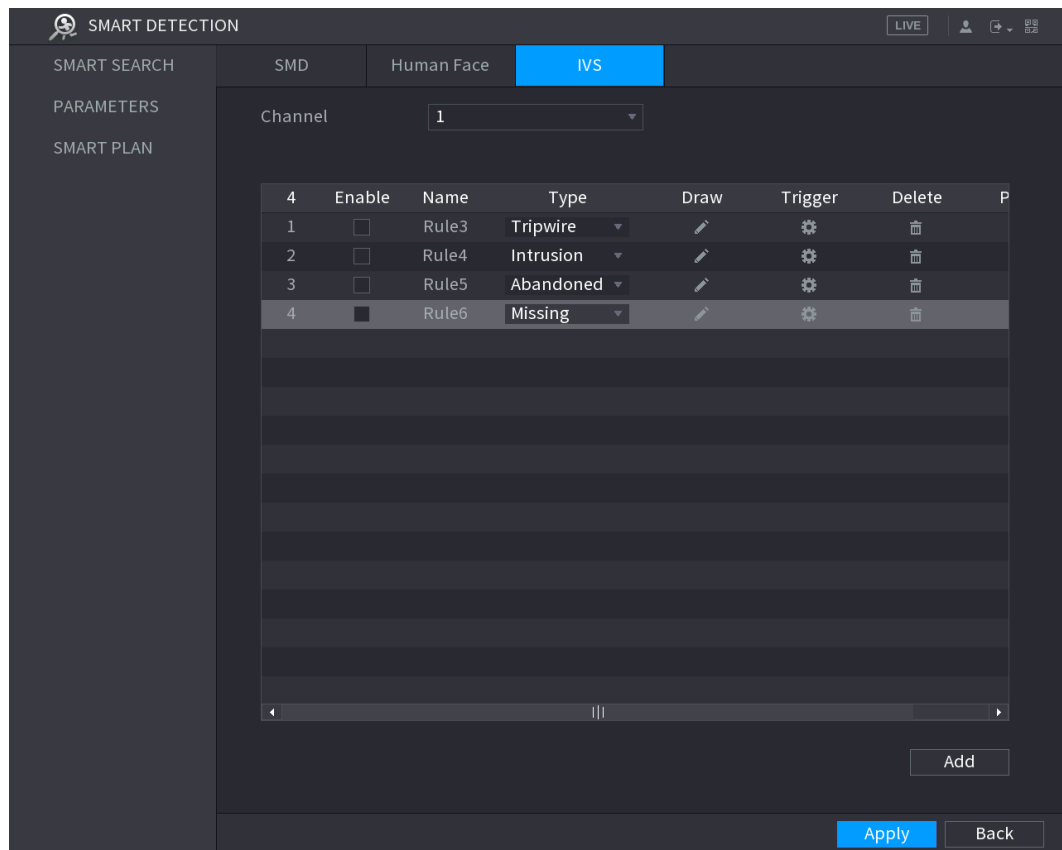

Figure 5-160
Step 1 On the rule line that you added, in the **Type** list, select **Missing**. See Figure 5-160.